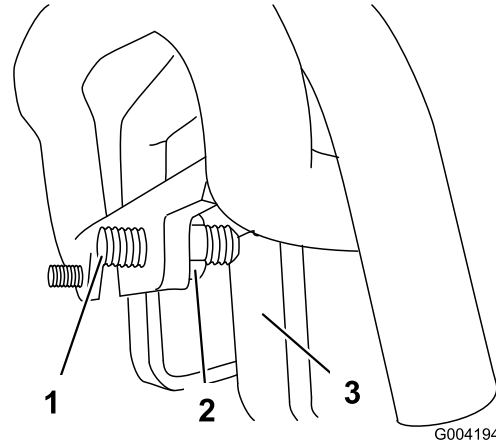

Figure 52
3. If the traction unit veers to the **left**, loosen the **right** jam nut and adjust the tracking set screw on the front of the traction control (Figure 52).
4. If the traction unit veers to the **right**, loosen the **left** jam nut and adjust the tracking set screw on the front of the traction control (Figure 52).